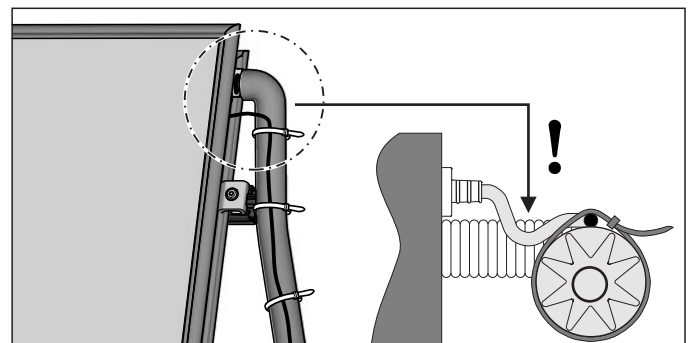

Fig. 4-22 Work step 3
- When securing the cable, make sure that no rainwater can run down the cable to the sensor well (installing with drip-off elbow, see fig. 4-22).